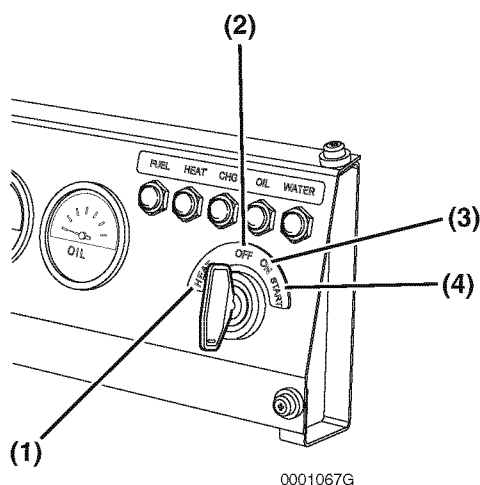

Figure 5
The key switch for the operator's console illustrated in **Figure 5** has four positions - OFF, ON, START, and HEAT.
HEAT (Figure 5, (1)) - You must turn the key to the HEAT position to activate the glow plugs. The indicator will flash for several seconds when you turn the key to HEAT. You can turn the key to START when the indicator goes out.
OFF (Figure 5, (2)) - When you turn the key to this position the engine shuts down. Electric current to the gauges and indicators is shut off. You can insert and remove the key in this position.
ON (Figure 5, (3)) - This is the position the key will be in when the engine is running. When the engine is not running, use this position to energize the gauges, indicators and auxiliary devices.
START (Figure 5, (4)) - Turn the key to this position to start the engine. As soon as the engine starts, release the key and it will automatically return to the ON position. Some key switches may be equipped with a feature that prevents you from turning the key to the START position while the engine is running. In these configurations you cannot turn the key to the START position without first returning the key to the OFF position.